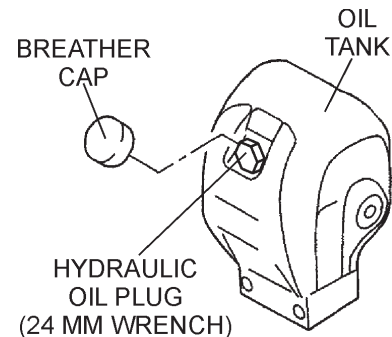

Figure 28. Hydraulic Oil Tank
1. Remove the breather cap and oil plug (Figure 28) from the hydraulic oil tank using a 24mm hex socket.